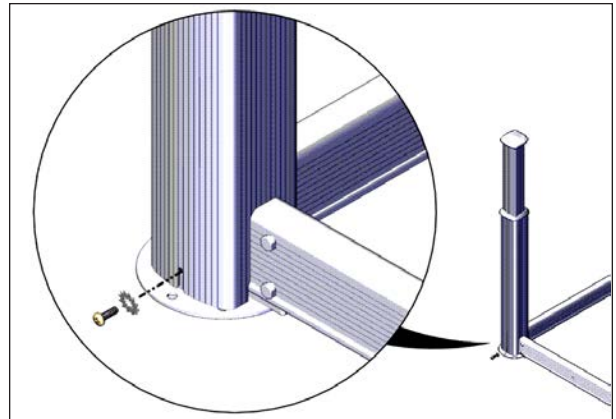

FIGURE 44: MOUNTING SCREW ON THE SLEEVE
21. Fasten the sleeve with the Phillips M6 x 20 mm screws at the bottom of all four sleeves, see Figure 44.